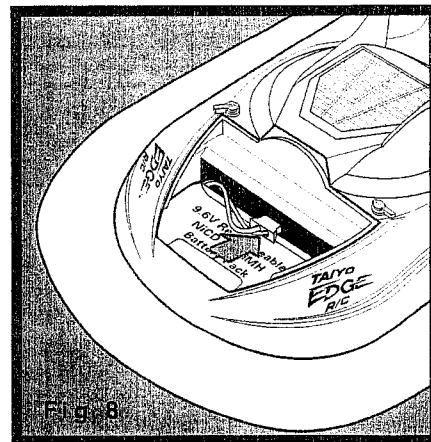

Fig. 8
3. Firmly insert BATTERY PLUG all the way into SOCKET as shown. Make sure the "key" (bump) on plug is facing downward to fit into notch in socket. (Fig. 8) Note: PLUG may require a firm pull to remove.